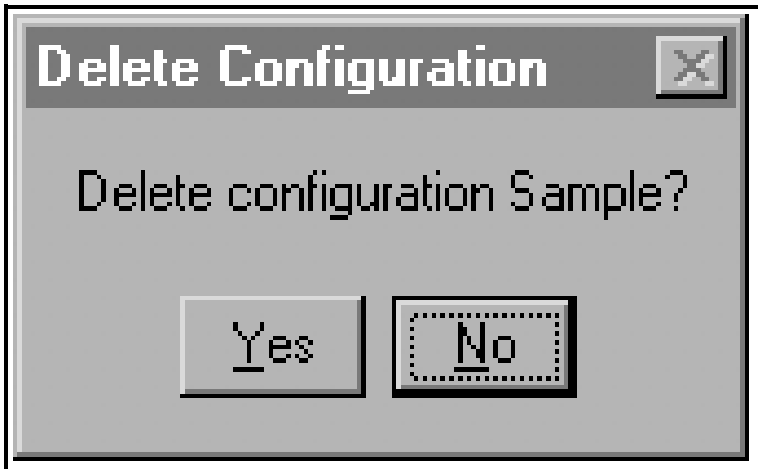

Figure 5-17: Delete Confirmation Dialog Box
2. At the dialog box shown in Figure 5-17 below, click on the [Yes] option button to delete the named configuration.